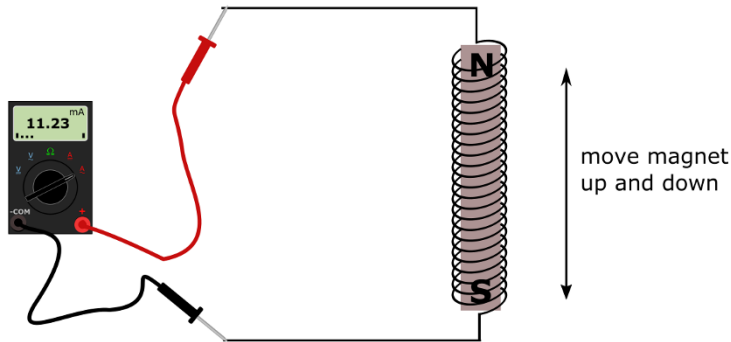

Figure 8-3: Moving a magnet inside a coil of wire induces a current in the wire.
Suppose you place a strong permanent magnet in the center of a coil of wire connected as in Figure 8-3. (Note that the multimeter and the wire form a complete path.) If you move the magnet up, current is induced in the wire and flows in one direction. If you move the magnet down, current is also induced, but it flows in the other direction. By moving the magnet up and down repeatedly, you can produce an alternating current (AC) in the wire. Alternatively, you can move the *wire* up and down around the magnet, and the same thing will happen. As long as there is relative motion between the wire and the magnet, current will be induced in the wire.